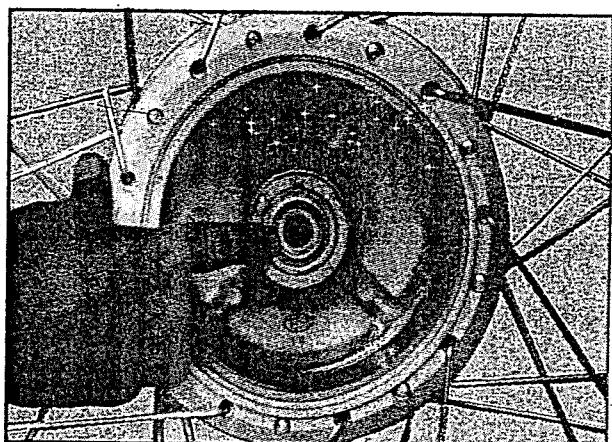

Fig 6.23
- Apply the recommended grease to wheel bearings (fig 6.23)